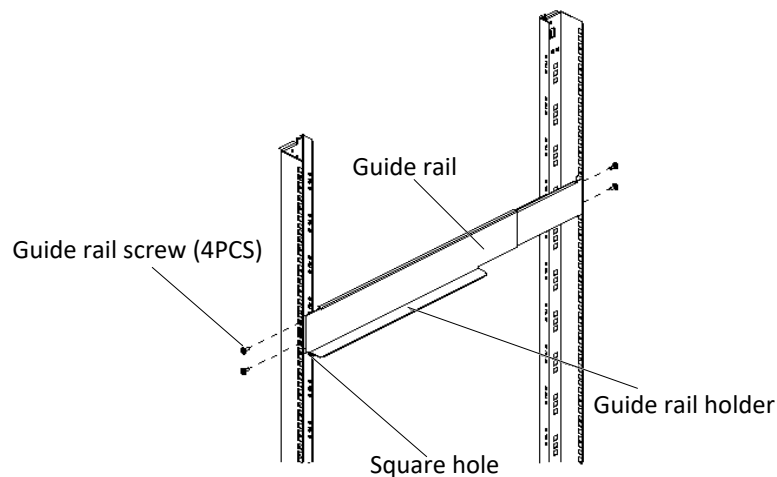

Figure 2-10 Installing the guide rail
c) Align the installation holes of the guide rail with the square holes of the rack, fix the guide rail onto the rack through the guide rail screws (totally eight), each left guide rail and right guide rail need four guide rail screws, as shown in Figure 2-10.